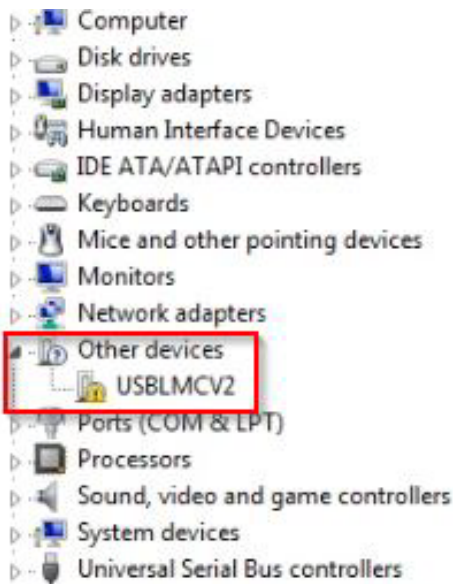

Figure 2
- On the PC, Navigate to the Control Panel > System and Security > Administrative Tools > Device Manager, you will see the new device listed under “Other Devices” (Figure 2)